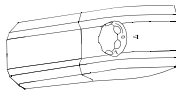

Fig. 20
- Rotate the knob to the "0" position (fig.20)